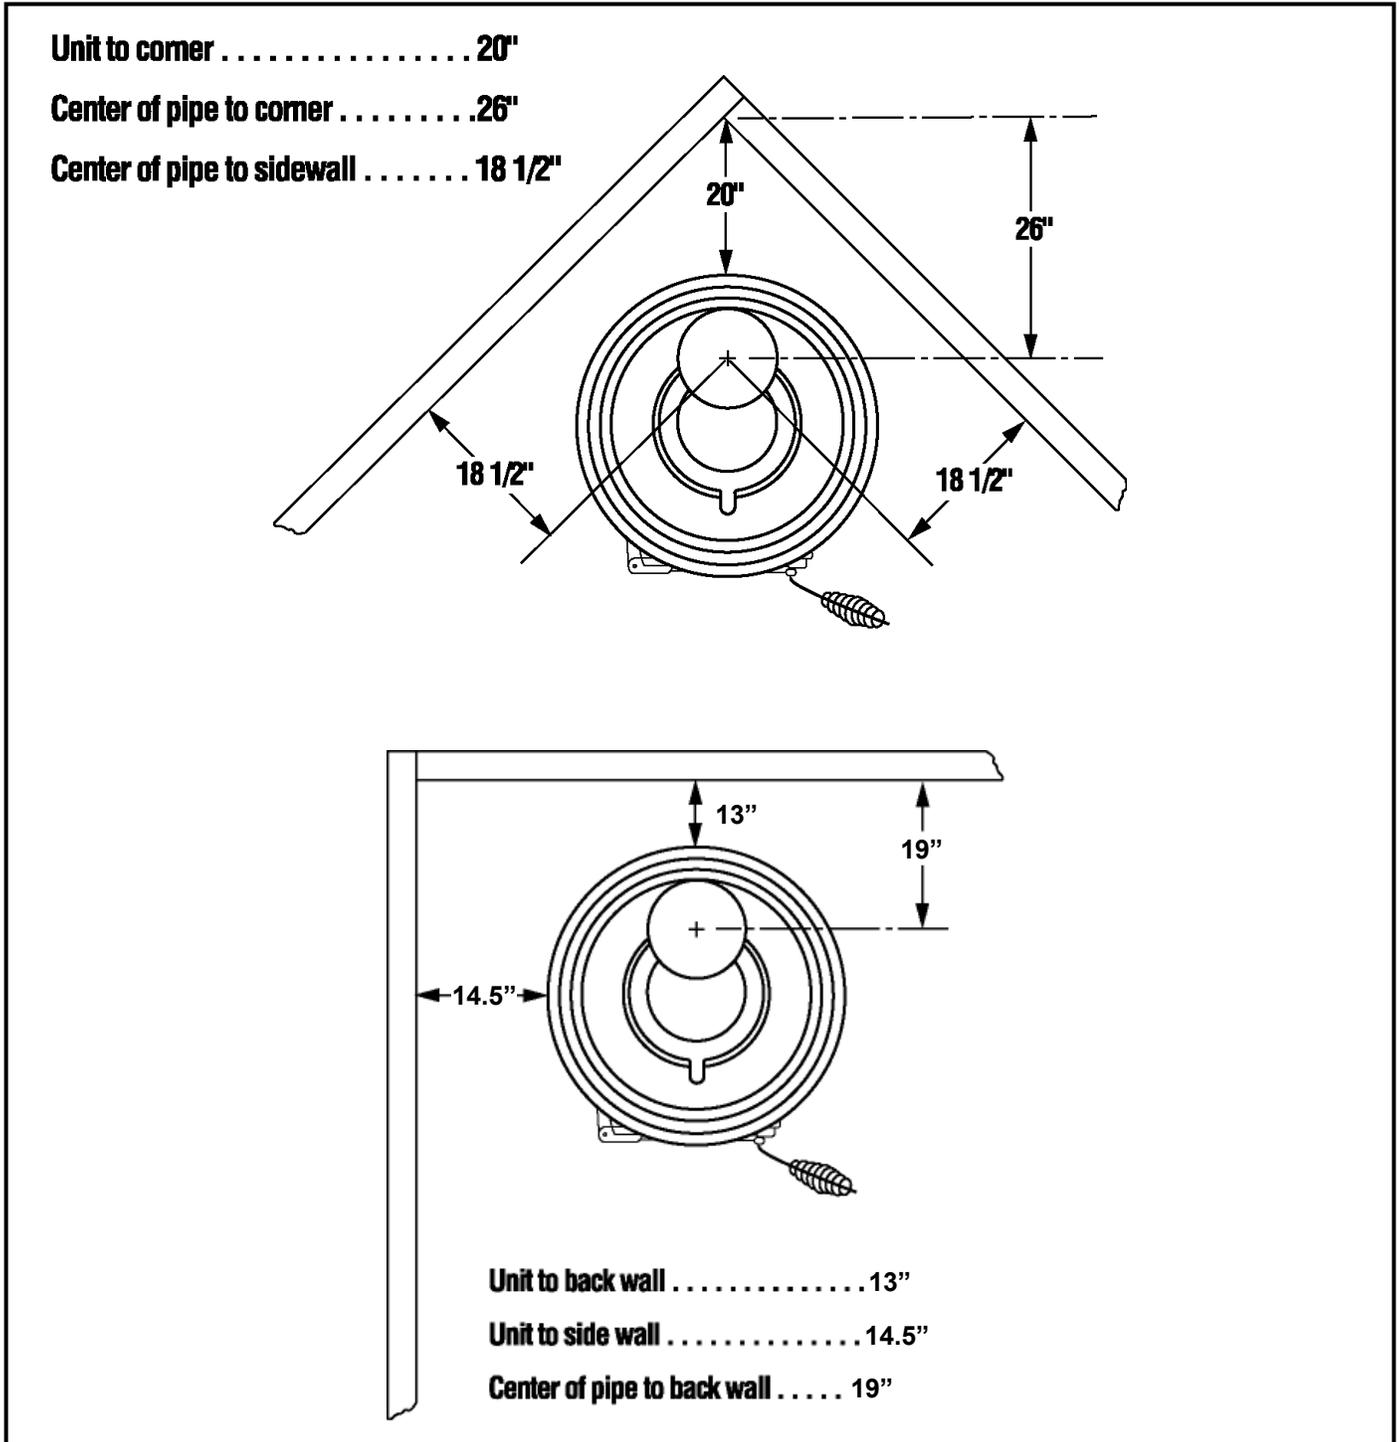
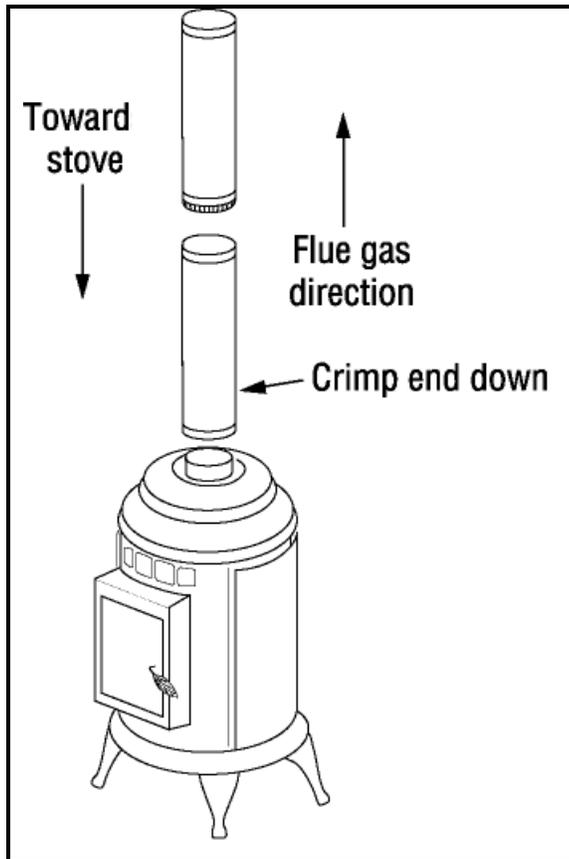

FIGURE 4. CLEARANCE TO COMBUSTIBLES
FIGURE 6. CHIMNEY CONNECTOR AND FLUE COLLAR
The chimney connector, also known as the flue or stove pipe, joins the stove to the chimney (see Figure 6). It must be 6” (152mm) minimum diameter, 24 MSG black or blued steel, or an approved air-insulated double wall-venting pipe.
CHIMNEY CONNECTOR IS TO BE USED ONLY WITHIN THE ROOM BETWEEN THE STOVE AND CEILING OR WALL. THE CONNECTOR SHALL NOT PASS THROUGH AN ATTIC OR ROOF SPACE, CLOSET OR SIMILAR CONCEALED SPACE, FLOOR, OR CEILING. MAINTAIN MINIMUM CLEARANCES TO COMBUSTIBLES AS REFERRED TO IN FIGURE 4. ALWAYS FOLLOW CHIMNEY CONNECTOR MANUFACTURER'S INSTRUCTIONS FOR PROPER INSTALLATION.
1. Chimney Connector: This must be at least 24-gauge mild steel or 26-gauge blue steel. The sections must be attached to the stove and to each other with the crimped (male) end pointing toward the stove (see FIGURE 6). All joints, including the connection at the stove collar, should be secured with three sheet metal screws. Make sure to follow the minimum clearances to combustibles (see FIGURE 4). Where passage through the wall or partition of combustible construction is desired, the installation shall conform to CAN/CSA-B365 (check with local building officials).